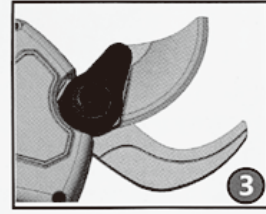

FIG.7
3. Open and close the blades of the tool several times to distribute the oil (Fig.7).